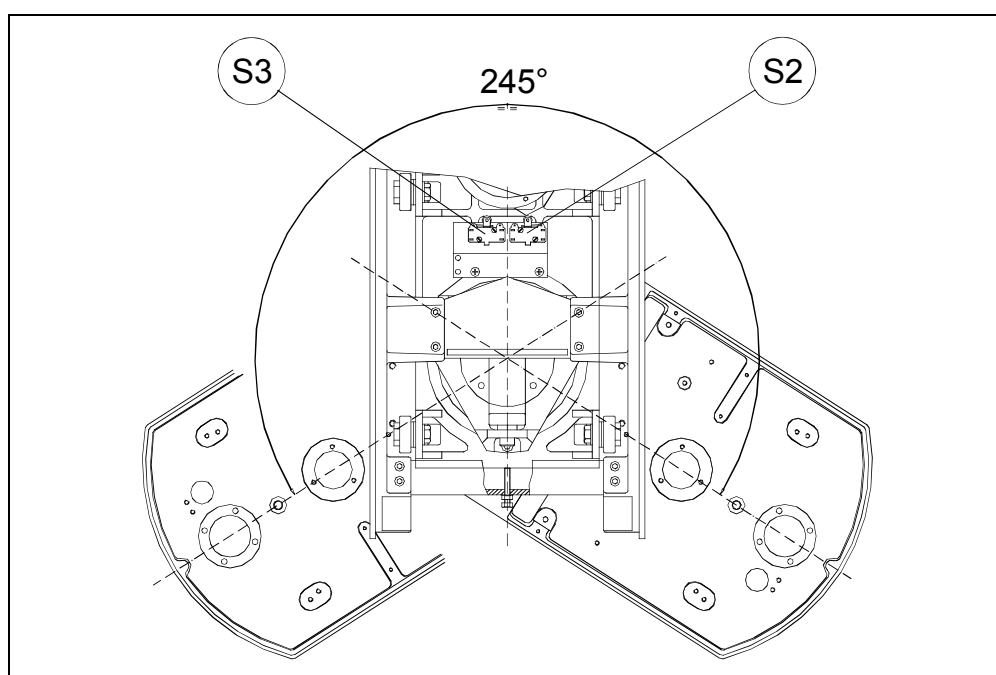

Figure 7-5
Another possible cause is the failure of one of the start/stop rotation microswitch S2/S3 (see Figure 7-5). Check the microswitch and/or connections.
- 2.** Manually move gently the rotating arm to the 0° position, until reaching the relevant microswitch S2 (see Figure 7-5).
8. Press the "**R**" key (32; Reset); the arm will rotate up to reach the 0° position.
9. Switch OFF the unit ; switch it back ON by activating the set-up function (see above Note 2) and press the "**T**" (31) button: the display will shown A/D followed by a number; press the "**decrease**" key (40) to store the value corresponding to the 0° position.
10. Press key "**T**" (31) to store the value.
11. Rotate the arm by pressing and holding the "**T**" key (31) checking that the end run angle is 245°.